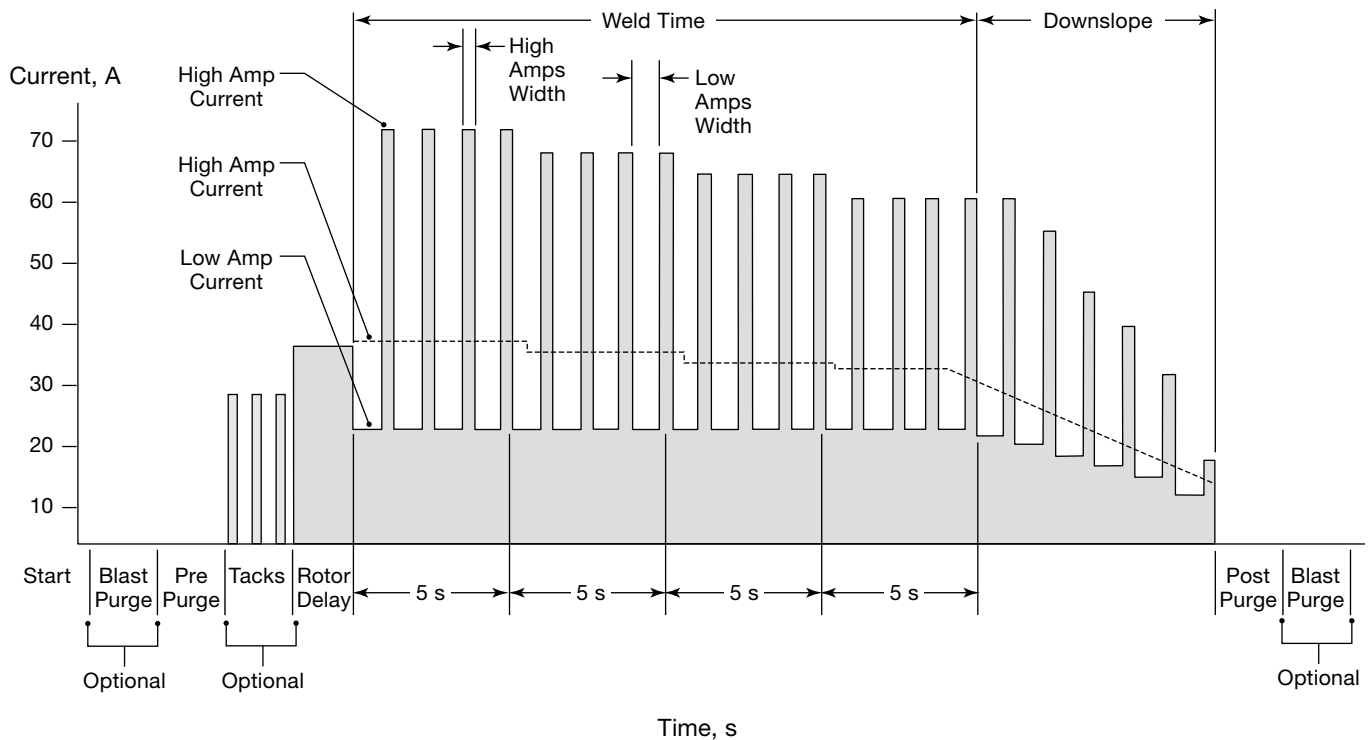

Fig. 56—Multilevel Weld Current Waveform
Weld parameters are the values used to create a weld procedure. The shape and duration of the output current waveform—a graphical representation of the weld procedure—is determined by the weld parameter settings. Figure 56 shows the waveform typical parameters generate during the course of a multilevel weld. The weld parameter settings are:
① This step, in conjunction with rounding the Weld Time to the nearest 0.5 second, prevents consecutive periods of low amperage output during the transition from one level to the next. This would be observed as skipping between weld levels. Note from Fig. 56, page 52, each level begins with the Low Amps period of the pulse cycle. The Weld Time multiplied by the Pulse Rate: